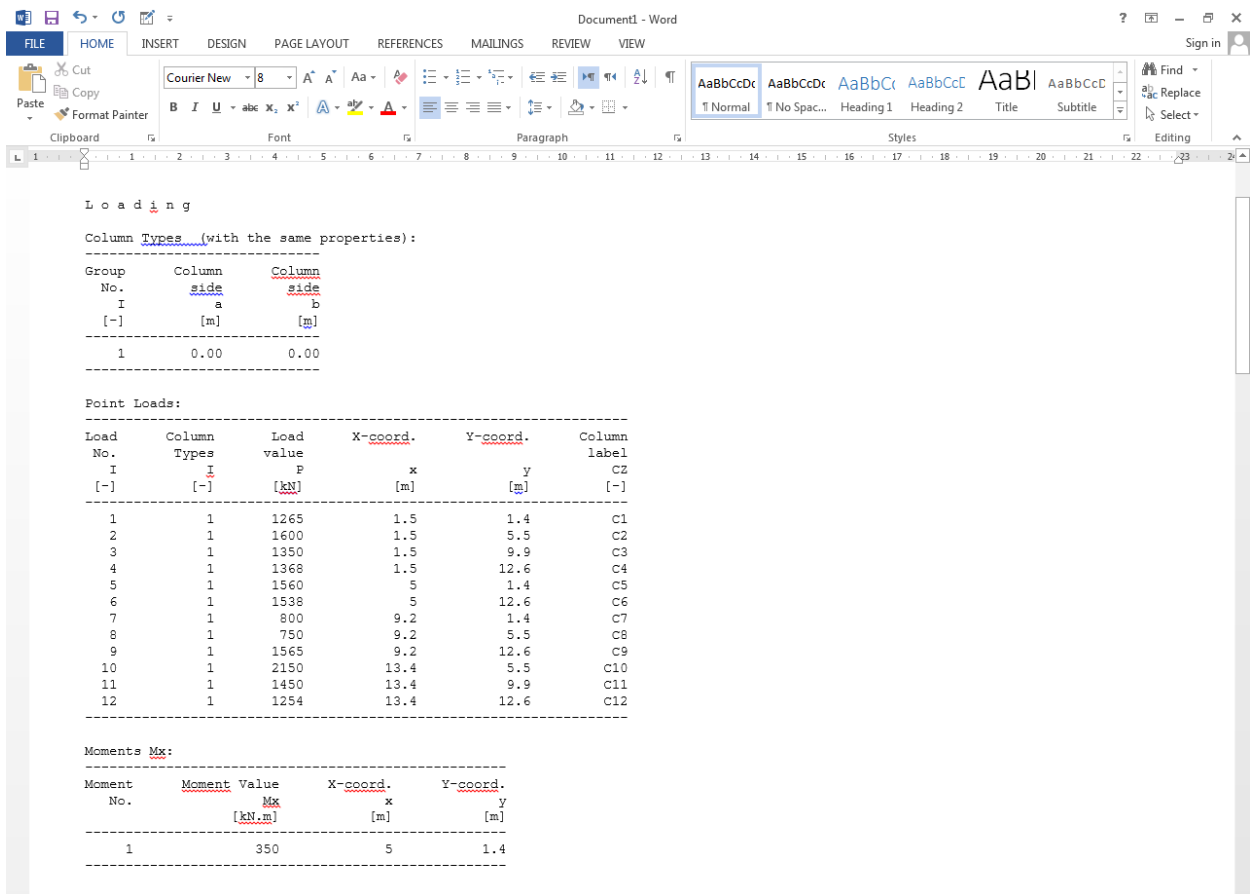

Figure 1.44 Exported data in MS Word
- Choose "Send to Word" from "Result" Tab if you wish to export the table to a MS Word application, Figure 1.44